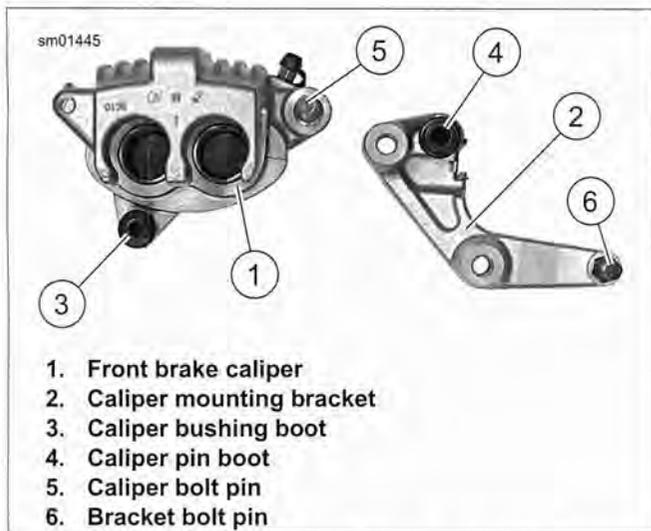

Figure 2-59. Lubricating Caliper Boots and Pins
1. See Figure 2-59. Apply approximately 0.4 g of G40M BRAKE GREASE inside caliper bushing boot (3) and caliper pin boot (4).